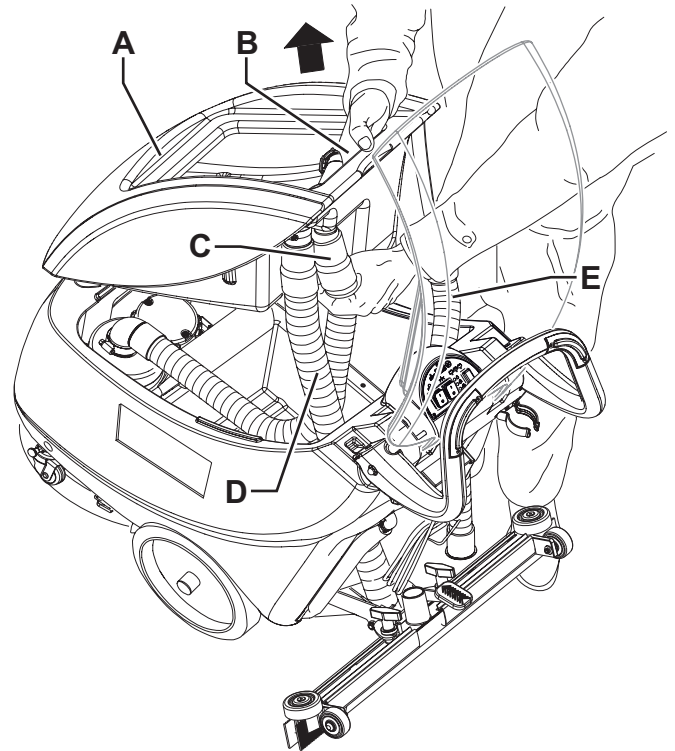

Figure 6
2. Empty the recovery tank (30) as shown in the relevant paragraph.
4. Disconnect the vacuum hose (22) from the squeegee (11).
5. Disconnect the recovery water drain hose (16) from the bracket (17).
6. Open the cover (6).
7. Grasp the recovery tank (A, Fig. 6) in the area (B) and slightly raise it.
8. Disconnect the vacuum hose (C) from the tank, then remove the tank (A) with the hoses (D) and (E).